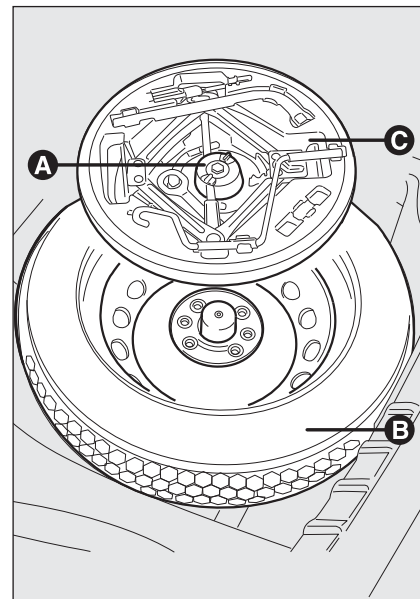

fig. 2
- ☐ unscrew the locking device **A-fig. 2**;
- ☐ take out the tool container **C-fig. 2** and put it alongside the wheel to be changed;
- ☐ take out the spare wheel **B-fig. 2**;
- ☐ put the jack back in its container **C-fig. 2** partially open by forcing it slightly against the container walls to prevent it from rattling around when travelling;
- ☐ stow the container **C-fig. 2**, complete with tools, inside the spare wheel;
- ☐ tighten the tool container clamping device **A-fig. 2**;